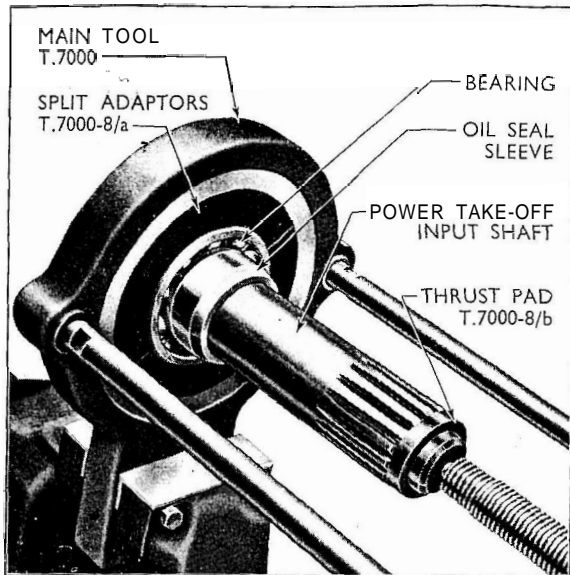

Fig. 29
3. Removal of the power take-off shaft ball bearing or oil seal sleeve necessitates the withdrawal of both these components. If such dismantling is necessary, remove the circlip immediately in front of the oil seal sleeve fit the split adaptors T.7000-8/a around the bearing and place this assembly in Main Tool, T.7000. Locate the thrust pad T.7000-8/b in the front end of the shaft and press the shaft through the bearing and oil seal sleeve (see Fig. 29).